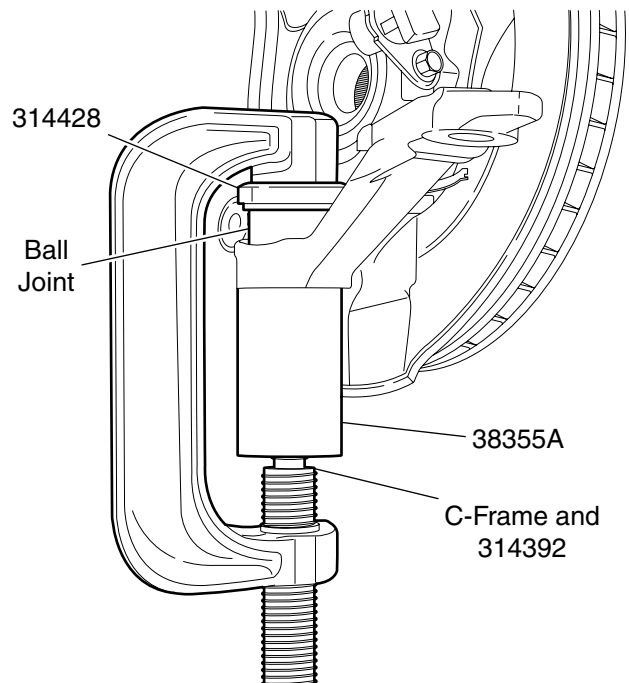

Figure 2. Ball Joint Installation
3. Position 38355A and 314428 (or the top of the C-Frame) on the ball joint as shown in Figure 2.